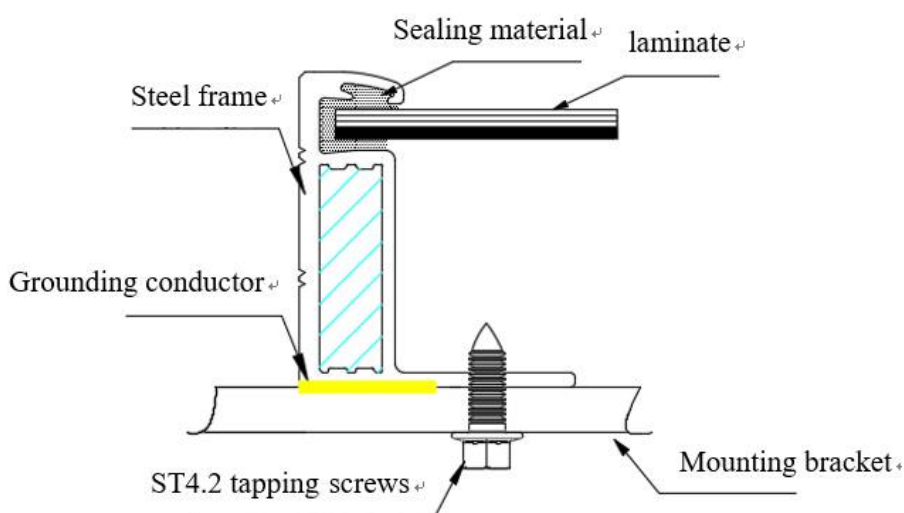

Fig. 11.2 ST4.2 tapping screws grounding
- **On a grounding hole with a diameter of $\phi 4$ mm, use a separate grounding wire and related accessories to connect the frame and connect the grounding wire to the ground. M4 x 12mm ground bolts with M4 nuts, star washers and plain washers are recommended for the aluminum frame, M4 tapping locking screws or ST4.2 tapping screws are recommended for high-strength alloy steel frames, see fig.11.2, this ensures that the modules are firmly grounded. You can find the corresponding product drawing in module datasheet to know the detailed number, size and position of the grounding holes. The torque applied to ground fixation is 4N· m~8N ·m.**